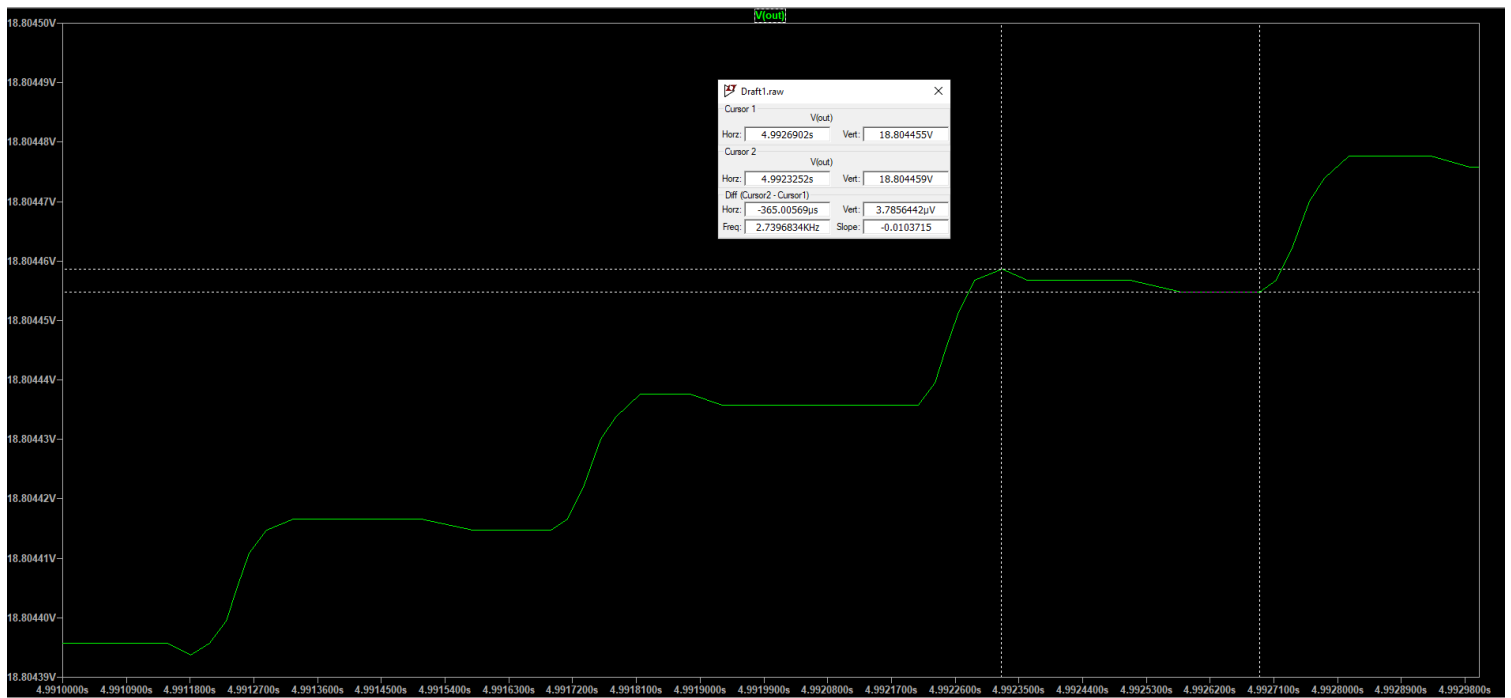

Figure 36: Ripple Calculation of Improved Design Without Load
- Note that voltage goes upward in the figure 36 which is related to the improved design because the capacitors are still charging.